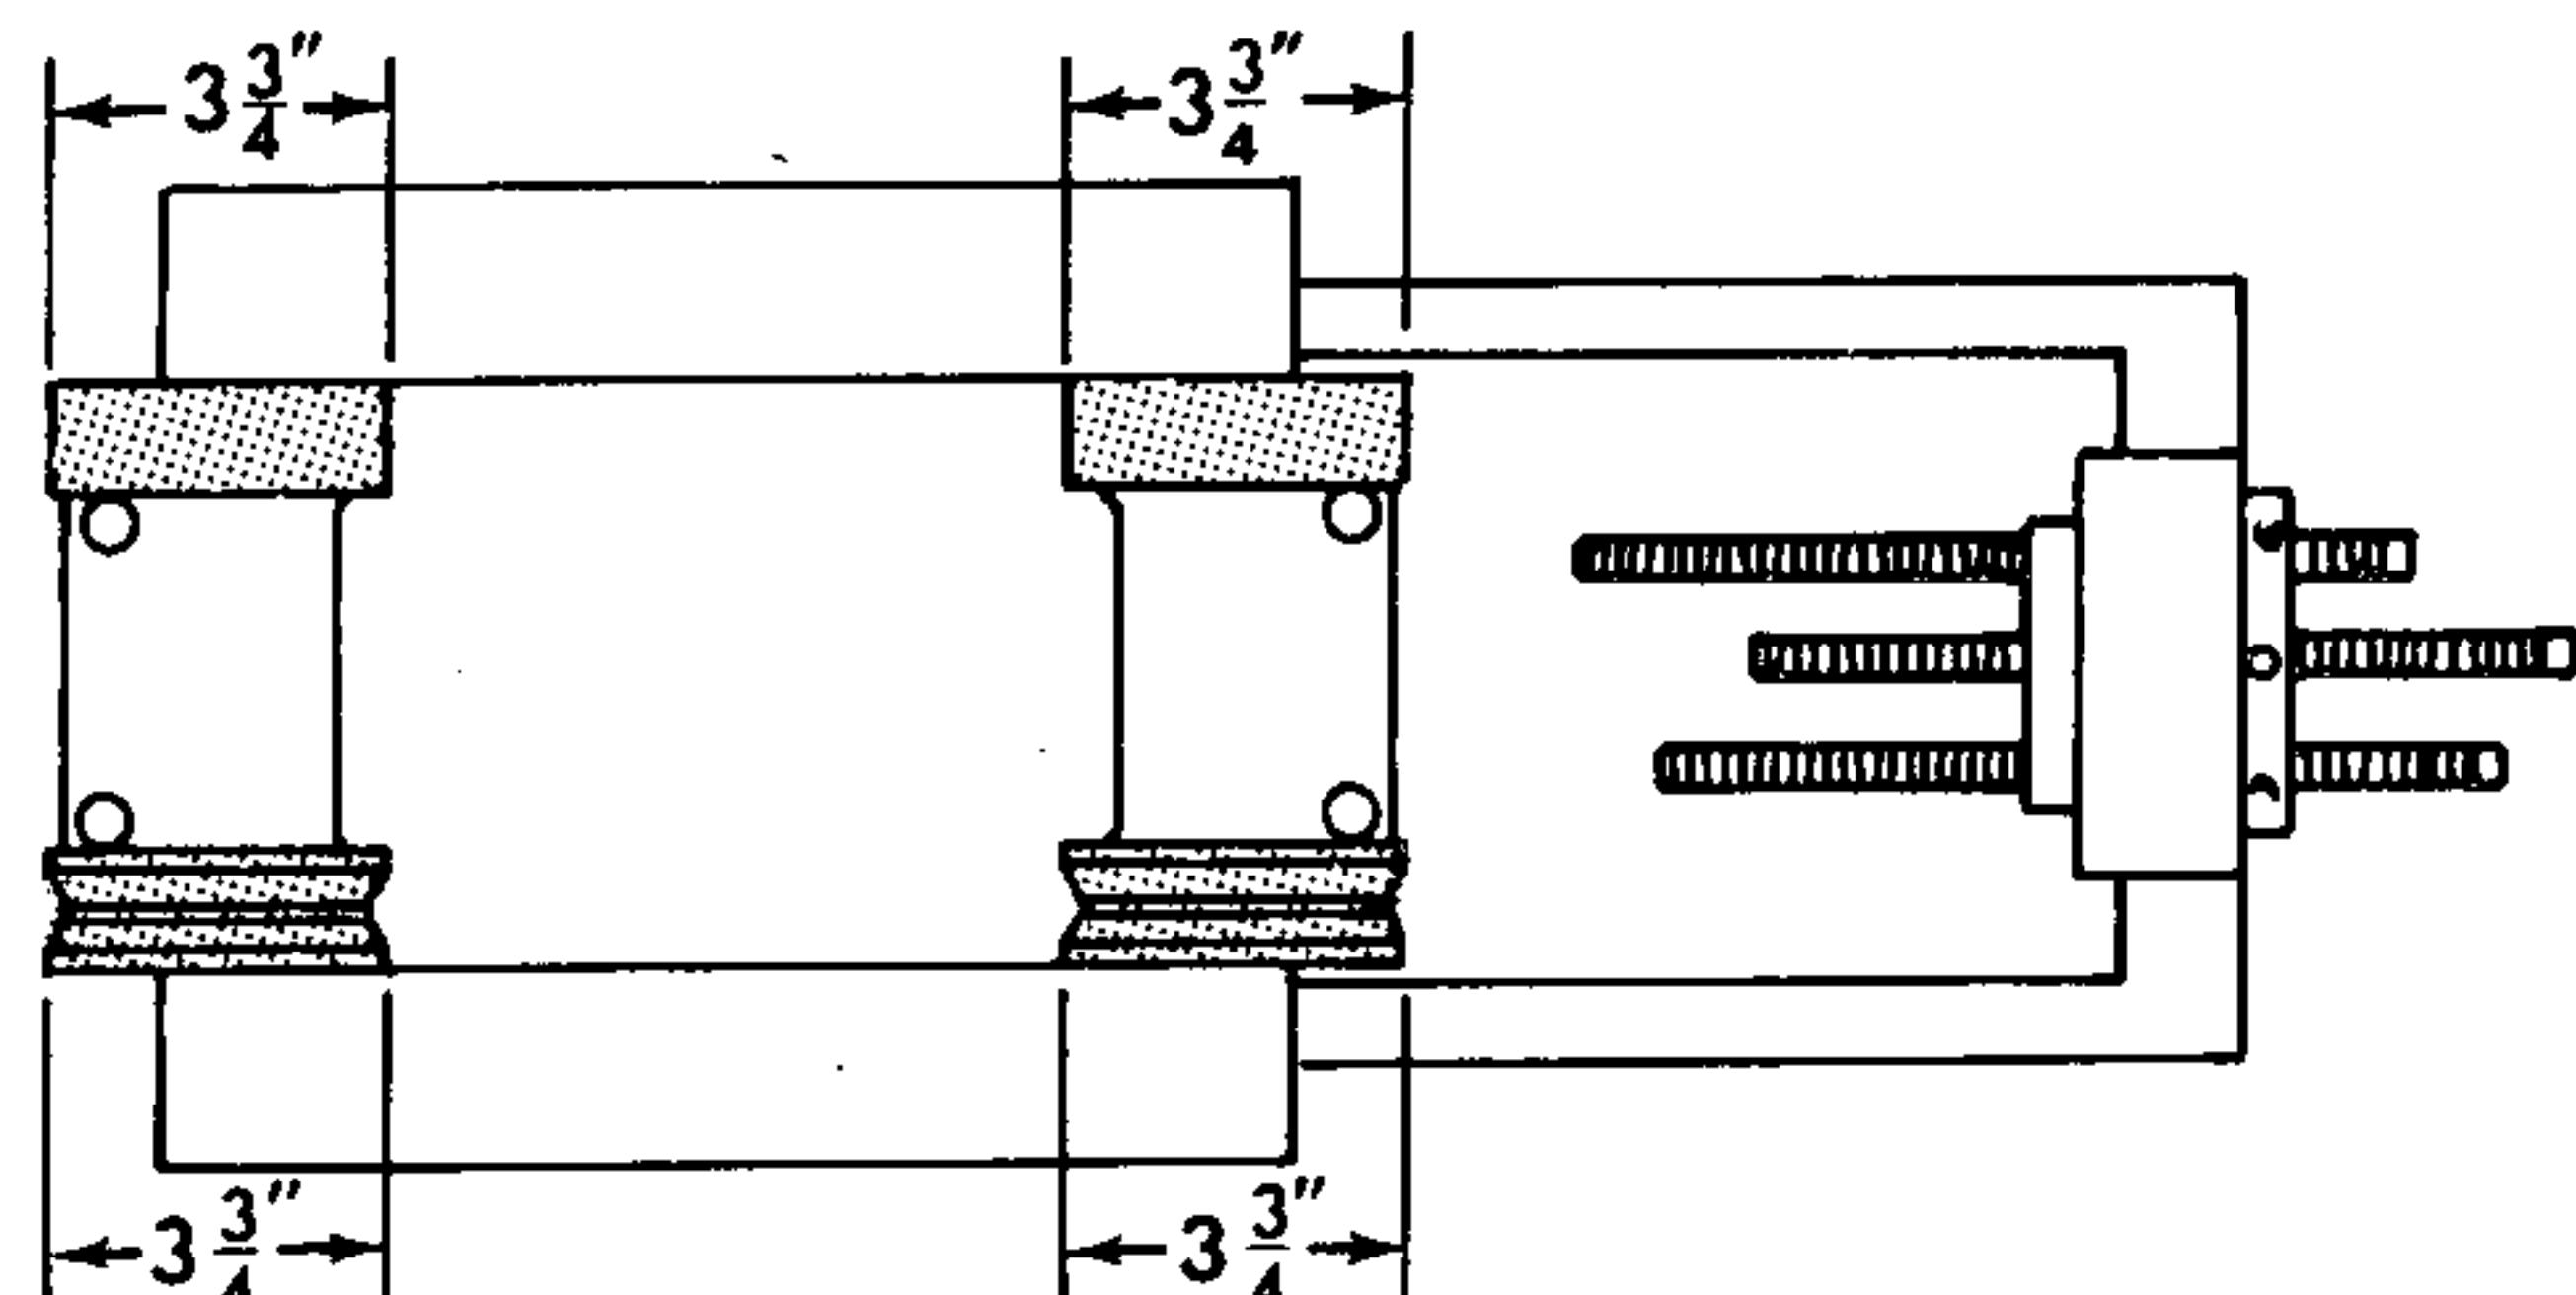

Figure 1
7. Scrape high spots just enough to remove blueing — then place turret back on lathe and check again as in steps 5 and 6. Repeat this procedure until bearing pads bear 3 3/4" as shown in figure 1.